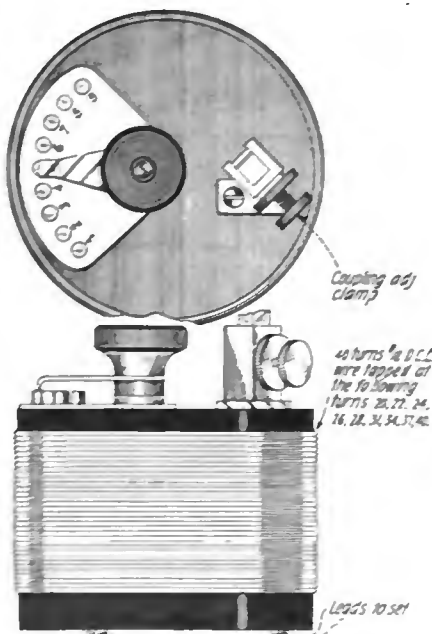

Figure 7—The plate coupling coil
4. Plate coupling coil—This coil consists of 40 turns of No. 18 D.C.C. copper wire, wound closely on a dilecto form 4 inches outside diameter and 3 inches long (figure 7). The complete coil is given a coat of shellac.